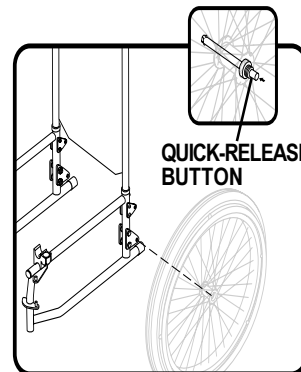

Figure 7. Removing the Drive Wheel
**NOTE:** You can also remove the drive wheels to make the wheelchair more compact. See figure 7.
1. Press the quick-release button and pull the drive wheel off. See figure 7.
**WARNING!** Prevent injury. If you remove the drive wheels, make sure the quick-release buttons snap into place when reinstalling a wheel. See figure 7.
1. Remove the drive wheel from the frame. See figure 7.